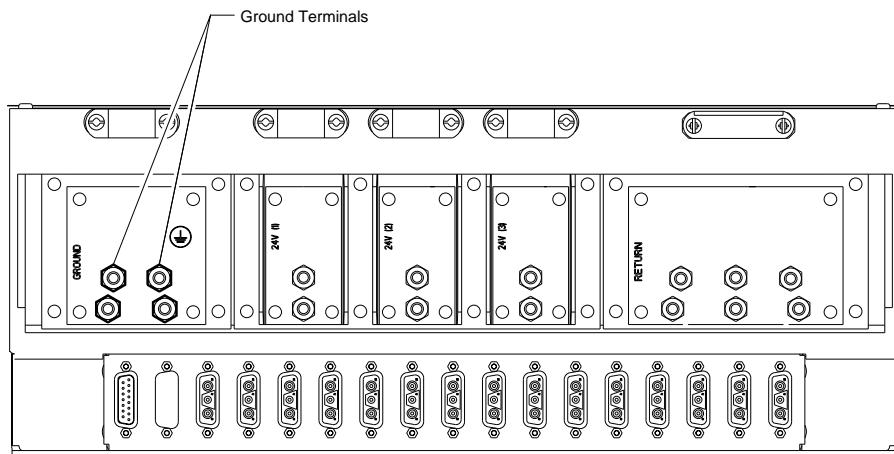

Figure 4.6 Ground Terminals on the PDP
- 6 Connect the compression lug on the main ground cable to one of the two ground terminals, as shown in Figure 4.6. Use a 1/4-inch hex nut with a 1/4-inch split-lock washer when securing the cable. Torque each 1/4-inch hex nut to 78 inch-pounds.